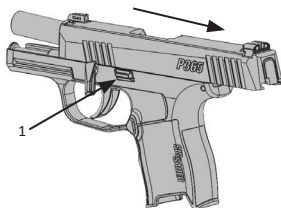

Figure 5
5. Lock the slide in place by pushing up on the slide catch lever (Figure 5, Item 1).